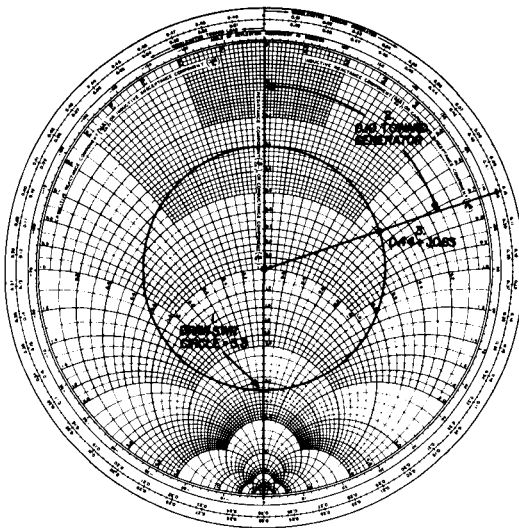

fig. 7. Example of determining impedance by use of a Smith chart. Courtesy Hewlett-Packard Company.
b. Draw an swr circle with a radius equal to 3.3, as shown in fig. 7.
d. Fig. 7 shows the radius line and circle intersecting at  $0.44 + j0.63$ , which is the normalized series impedance of the load.